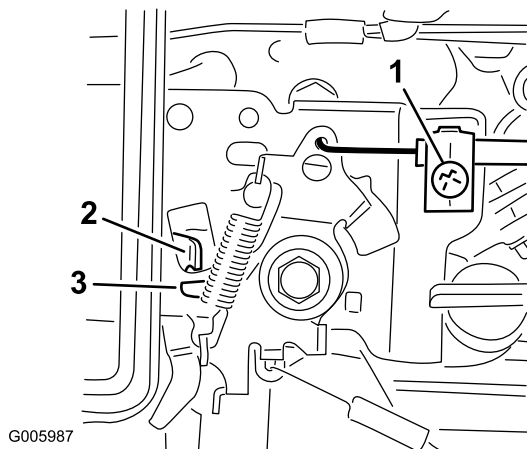

Figure 11
- C. Move the throttle lever on the engine until the throttle lever just touches the choke lever (Figure 11).
D. Tighten the set screw (Figure 11).